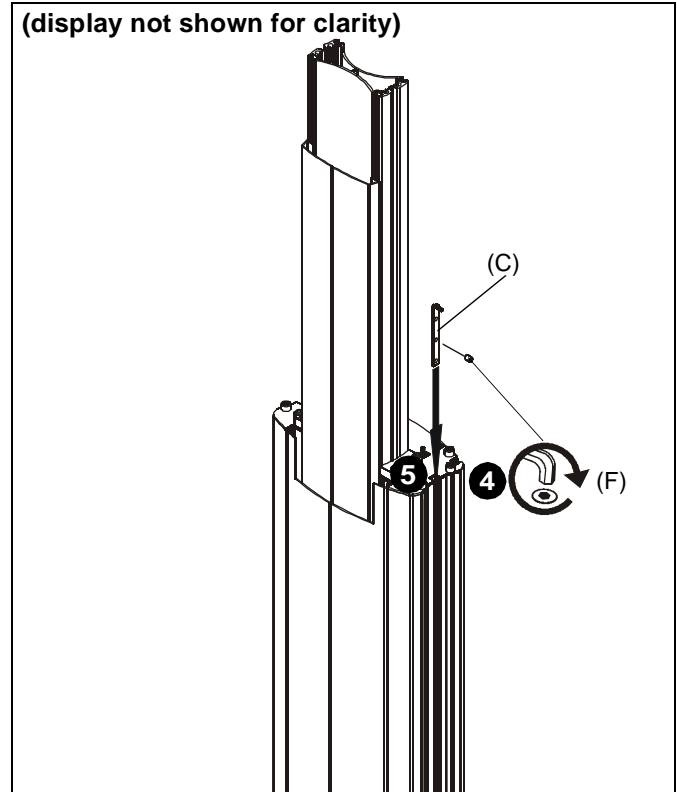

Figure 2
4. Partially install 1/4-20 x 3/8" set screw (F) into accessory bracket (C). (See Figure 2)
5. Slide accessory bracket (C) with set screw into side channel where CPU holder will be installed. (See Figure 2)